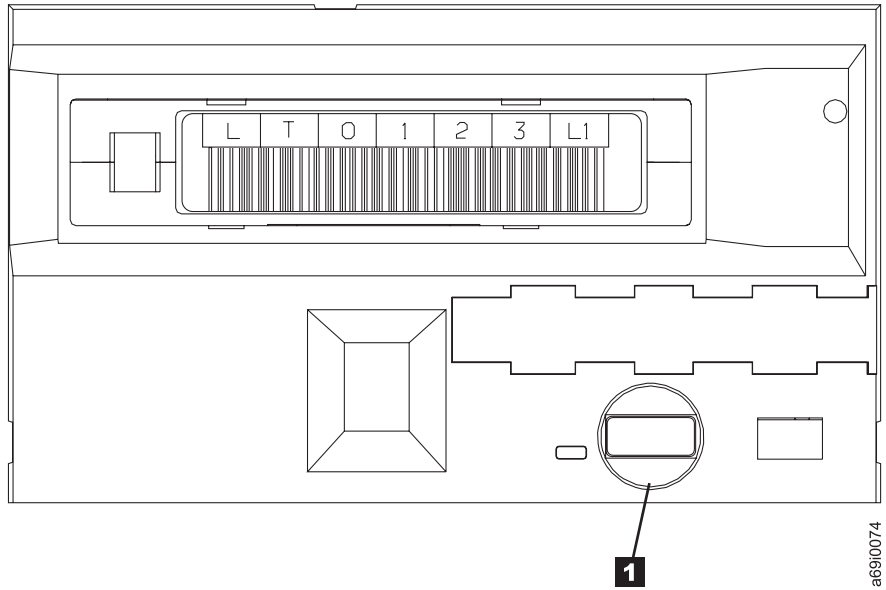

Figure 28. Removing a cartridge from an Ultrium Tape Drive
- a. Press the unload button (1 in Figure 28 on page 68).